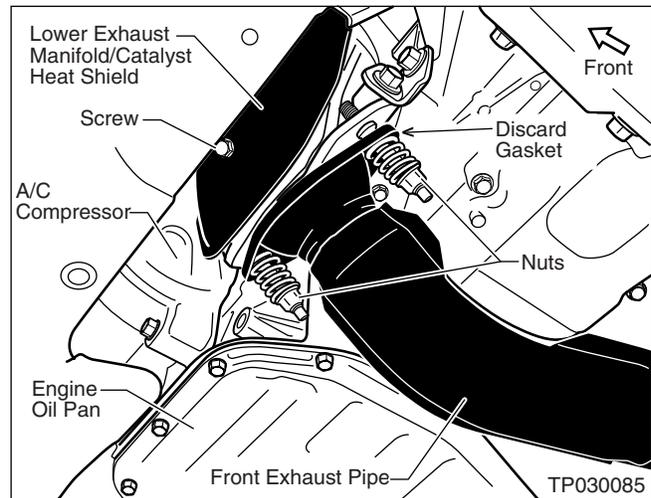

Figure E10
14. Remove the two nuts that secure the Front Exhaust Pipe to the Exhaust Manifold/Catalyst (see Figure E10). Discard the old gasket as you'll be installing a new one later.